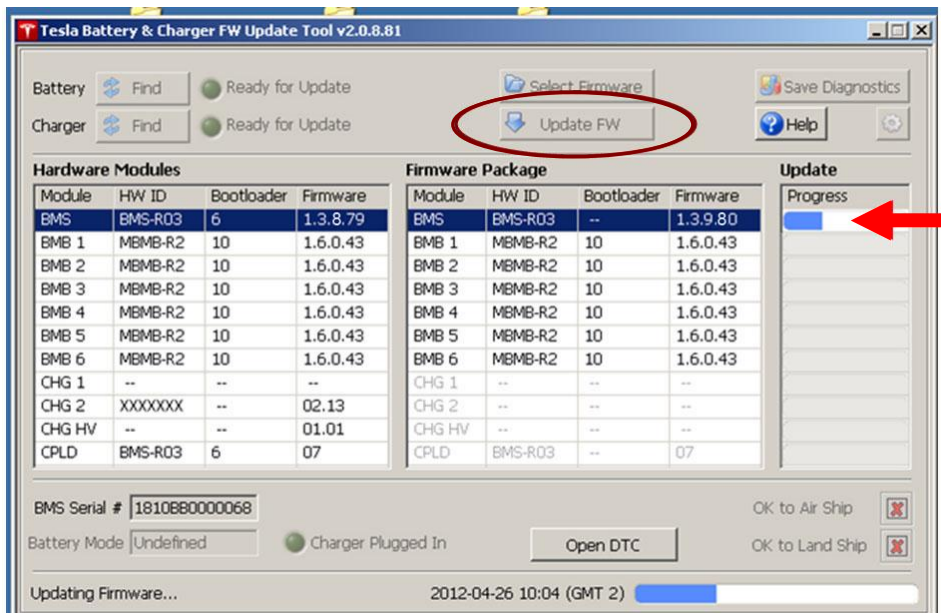

Figure 6
1.7. Start automatic update: Select: "Update FW" (circled, Figure 6).